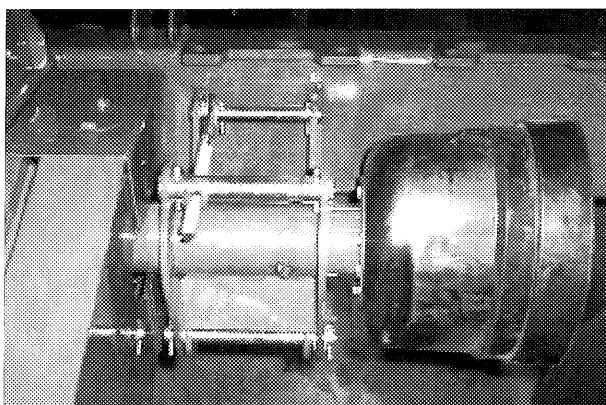

Fig. 48-3
**Alternative gear exchange\*** (Fig. 48-3)